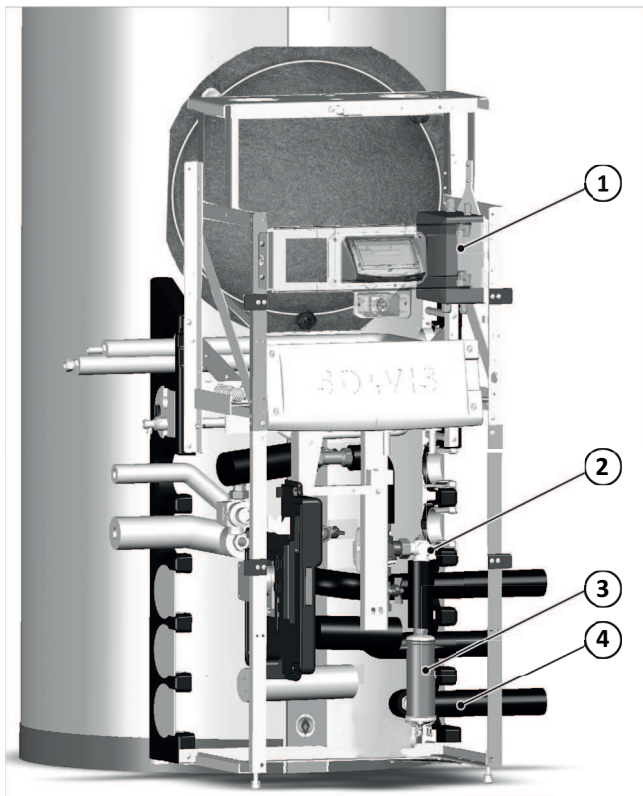

Fig. 31: Position of the components in the charging module
→ Fig. 31 indicates the positions of the connection box (1) and heating cartridge (3) in the charging module. The connection pipes for the heating pump and heating flow can be routed through the side pipe lead-through on the right or left.
1. Screw the connection box onto the top of the charging module; see → Fig. 31 (1).